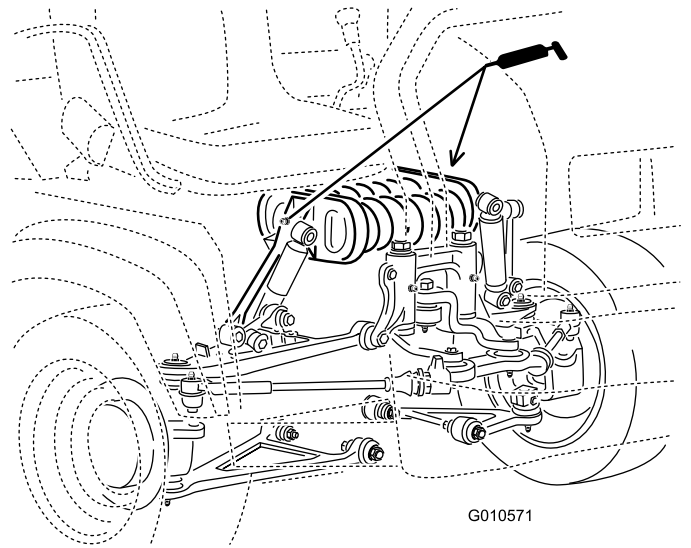

Figure 41
- Spring tower (2) as shown in Figure 41